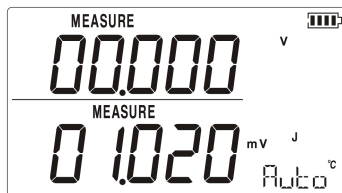

Figure 5.1-3
4. Press to display the DC mV value reading as shown in Figure 5.1-3. The DC mV value continue to display for 3s and then automatically return to the original display.